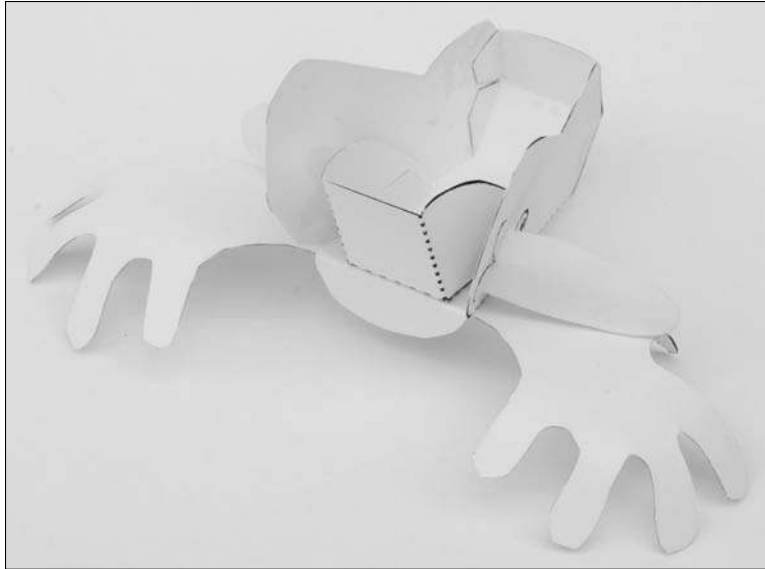

Figure 11-8:
- 4. Assemble the bell crank and glue it inside the head (refer to Figure 11-8).**